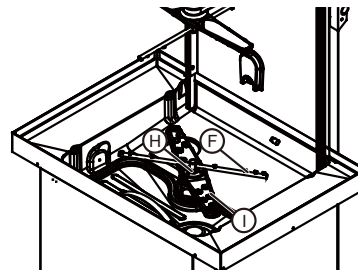

Figure 26 Wash and rinse arms
- Remove the upper and lower wash arm "F" and the flushing arm "I" and remove the ringnut "H" (Figure 26).